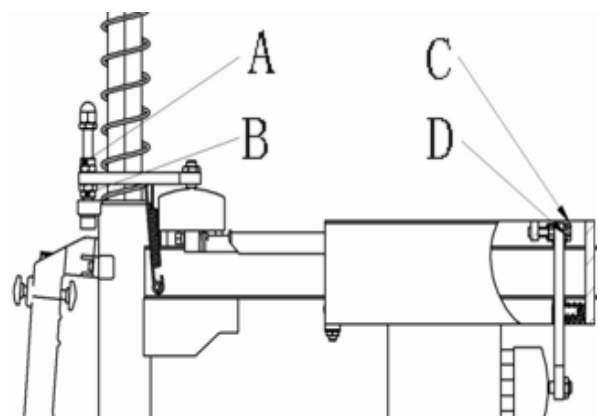

Fig8-3
8.3.1. Vertical clearance: Adjust hex shaft lock plate: Switch off the air source and detach the protective cover of the vertical hex shaft. If the clearance is too big, you can downward adjust the upper and bottom nut at the front end of the hex lock plate. If small, you can upward adjust the upper and bottom nut at the front end of the hex lock plate. (Fig8-3 A、B)After connect the air source, observe the shift condition
8.3.2Use spanner to loose the lock nut on the M6 screw at the two end. Adjust the M6 screw (Fig 8-3 C), meanwhile use your hand to push the quadric shaft until it runs smooth and then lock the nut.
-Use the spanner to adjust the screw (Fig8-3 B) in the middle and meanwhile lock the horizontal arm